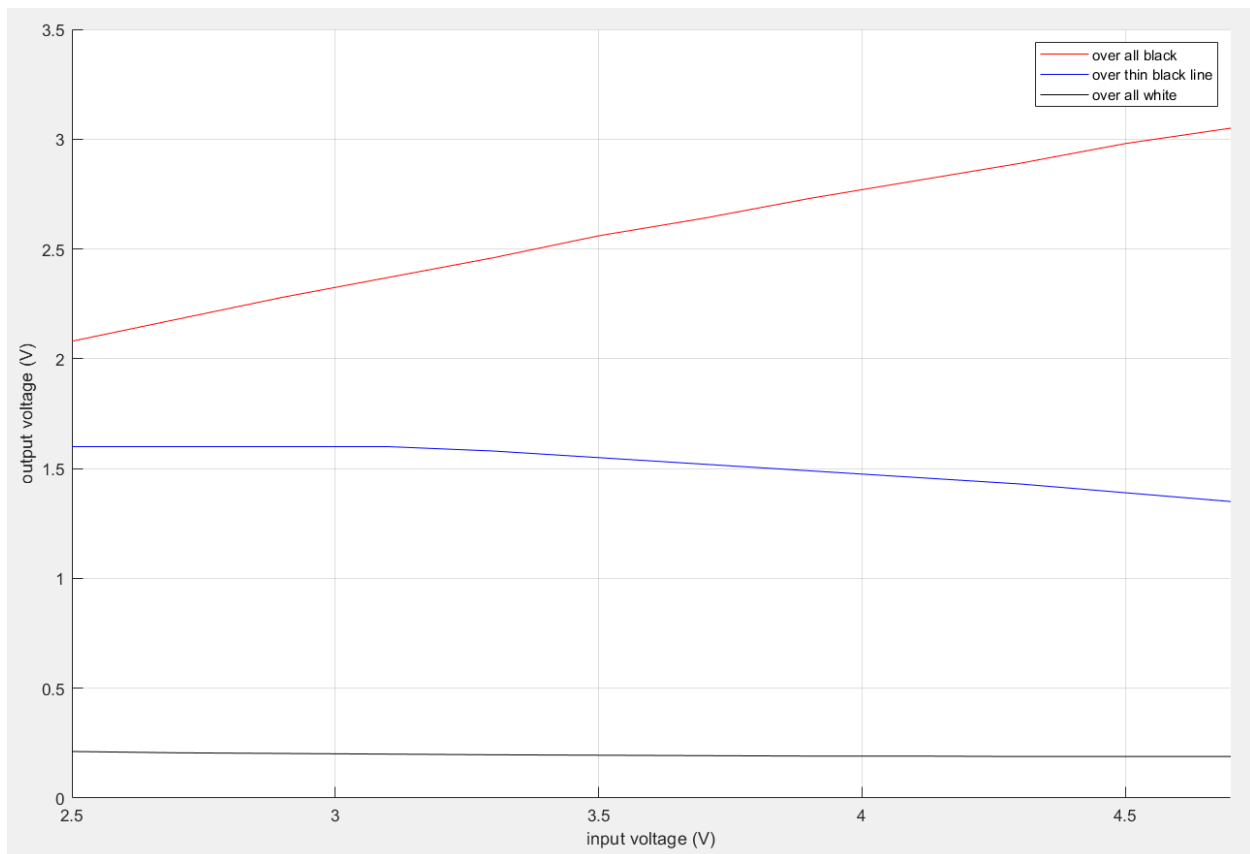

Figure 14 Output voltage dependence on input voltage over different features. $R1 = 1 \text{ k}\Omega$, $R2 = 220 \text{ k}\Omega$, height = 2 mm.
- Input voltage. Higher voltage improves all black and all white readings. Higher voltage improves reading over thin black line up to some voltage after which parasitic light might become so bright that output voltage might start decreasing. See Figure 14.